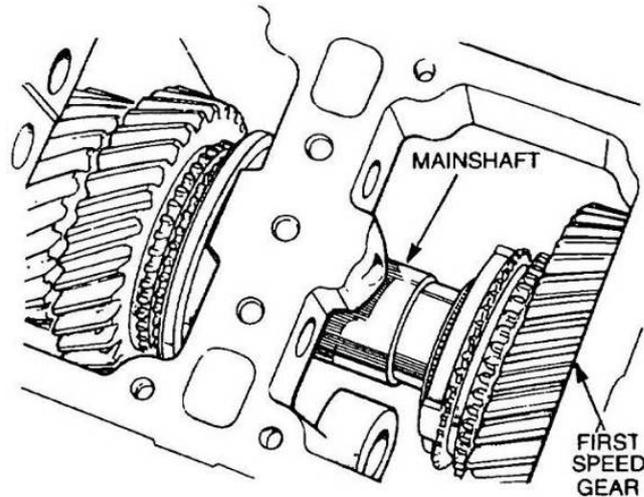

Figure 173 Removal of the Mainshaft
- ff. Carefully remove the mainshaft assembly while simultaneously removing the first speed gear from the shaft (Figure 173). Lift out the first speed gear.